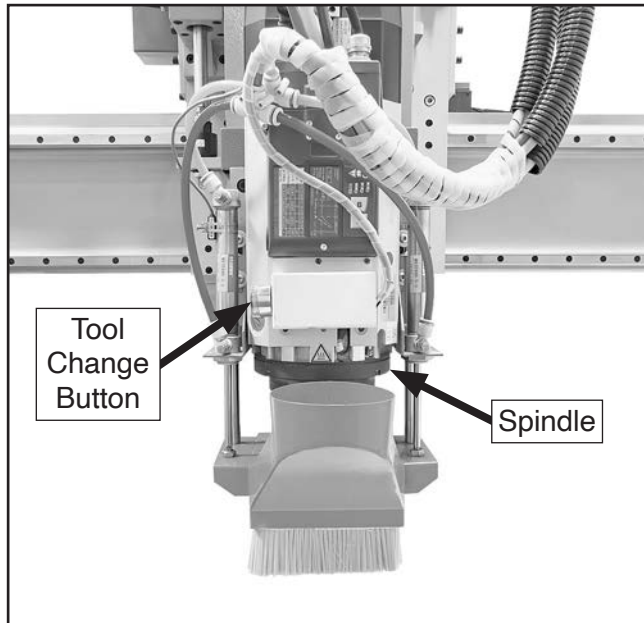

Figure 104. Tool change button location.
4. Press green tool change button on front of spindle to secure tool holder (see **Figure 104**).
4. Press green tool change button on front of spindle to release tool holder (see **Figure 104**).